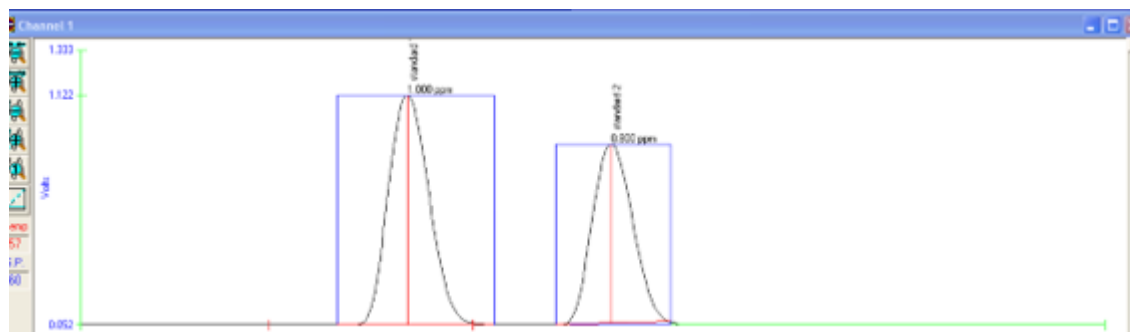

Figure 4.41: Example of FIAGram
- 14) Export data from the FIA system and archive all parameters associated with the analysis, including calibration data, raw measurement data, sample identification and instrument audit trails. Audit trails include instrument parameter settings that may be useful when the baseline is found to have drifted. It may be necessary to repeat the analysis from the point where a problem was discovered in the FIA output. The signal trace from an FIA is called an FIAGram. Figure 4.41 is an example of an FIAGram.